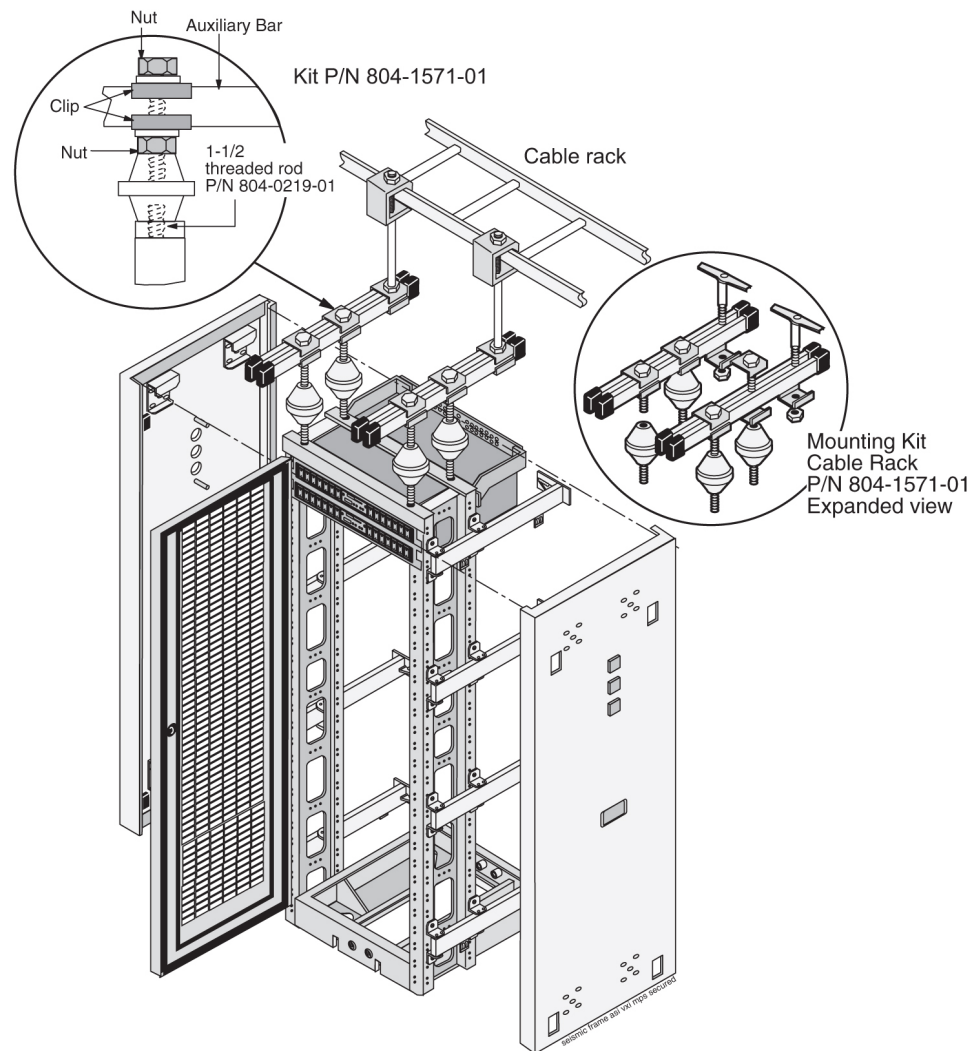

Figure 23: Heavy Duty Frame Installation With Cable Rack
2. Secure the top of the frame to the overhead cable ladder rack using a threaded rod with hardware as shown in Figure 23: Heavy Duty Frame Installation With Cable Rack.